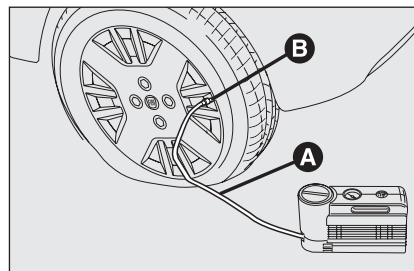

fig. 15
- ☐ **Ensure that the handbrake is up.** Remove the tyre valve cap, extract the flexible filler tube **A-fig. 15** and fasten the ring **B** onto the tyre valve;